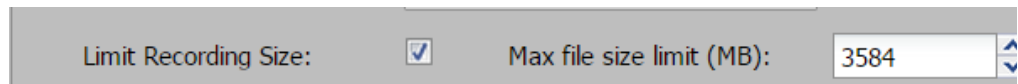

Figure 47. Limit Recording Size
To set a recording file size limit, select (check) the **Limit Recording Size** check box (see figure 47) then enter a number into the **Max file size limit (MB):** field or use the **Up** and **Down** arrows next to the field to select a number. The file size can be limited to any size between 100 MB to 3.8 GB (3800 MB). The default is 3584 MB. If you deselect the **Limit Recording Size** check box, the size limit function is disabled, and the entire recording is stored in a single file.